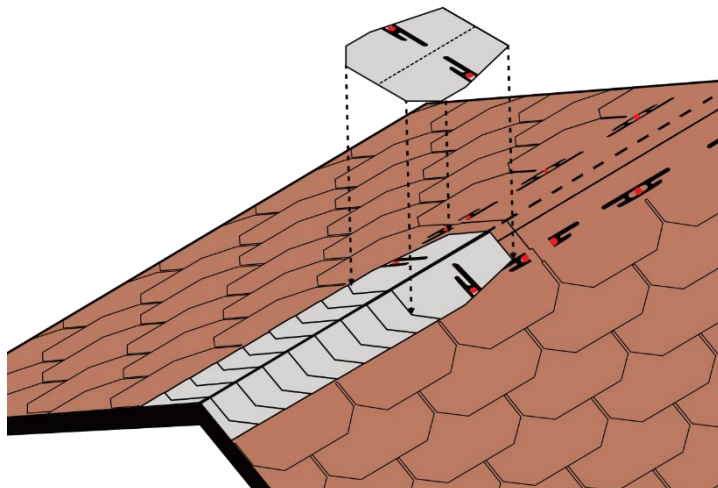

Fig. 11 - Ridge elements installation
- Fix the first ridge element with 2 galvanized nails at least 32mm long, one nail on each side - Fig. 11. Proceed with the installation of the other ridge elements in sequence, leaving an exposed part of 9 cm between one element and the next.